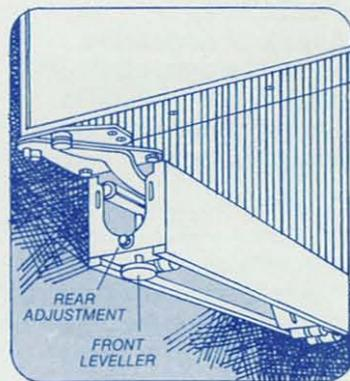

Figure 12
4) Using the front and rear levelers, the unit must be raised until it contacts the wood block. See Figure 12.
To reduce possibility of cabinet tipping forward, front levelers must be in contact with floor. See Figure 12.
Level the unit. To adjust height, turn front leveling legs counterclockwise to raise, or clockwise to lower. Rear levellers (rollers) are adjusted from front of base. Turn 5/16" hex bolt clockwise to raise cabinet, counterclockwise to lower cabinet. See Figure 12.